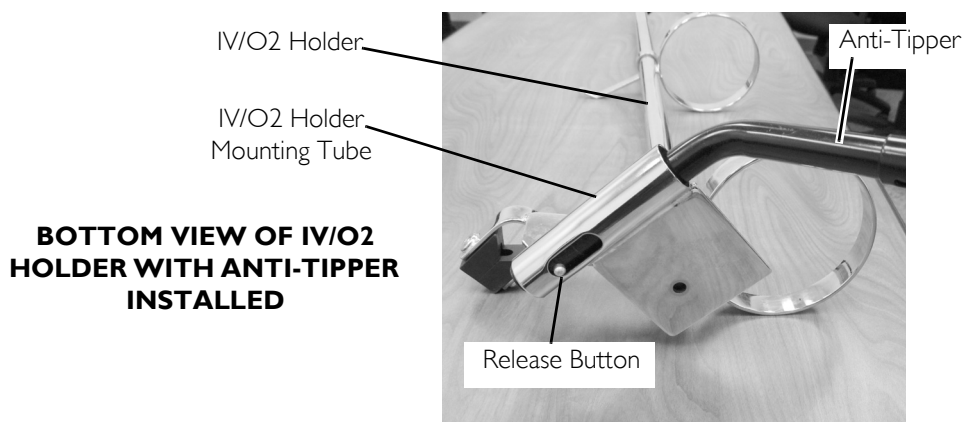
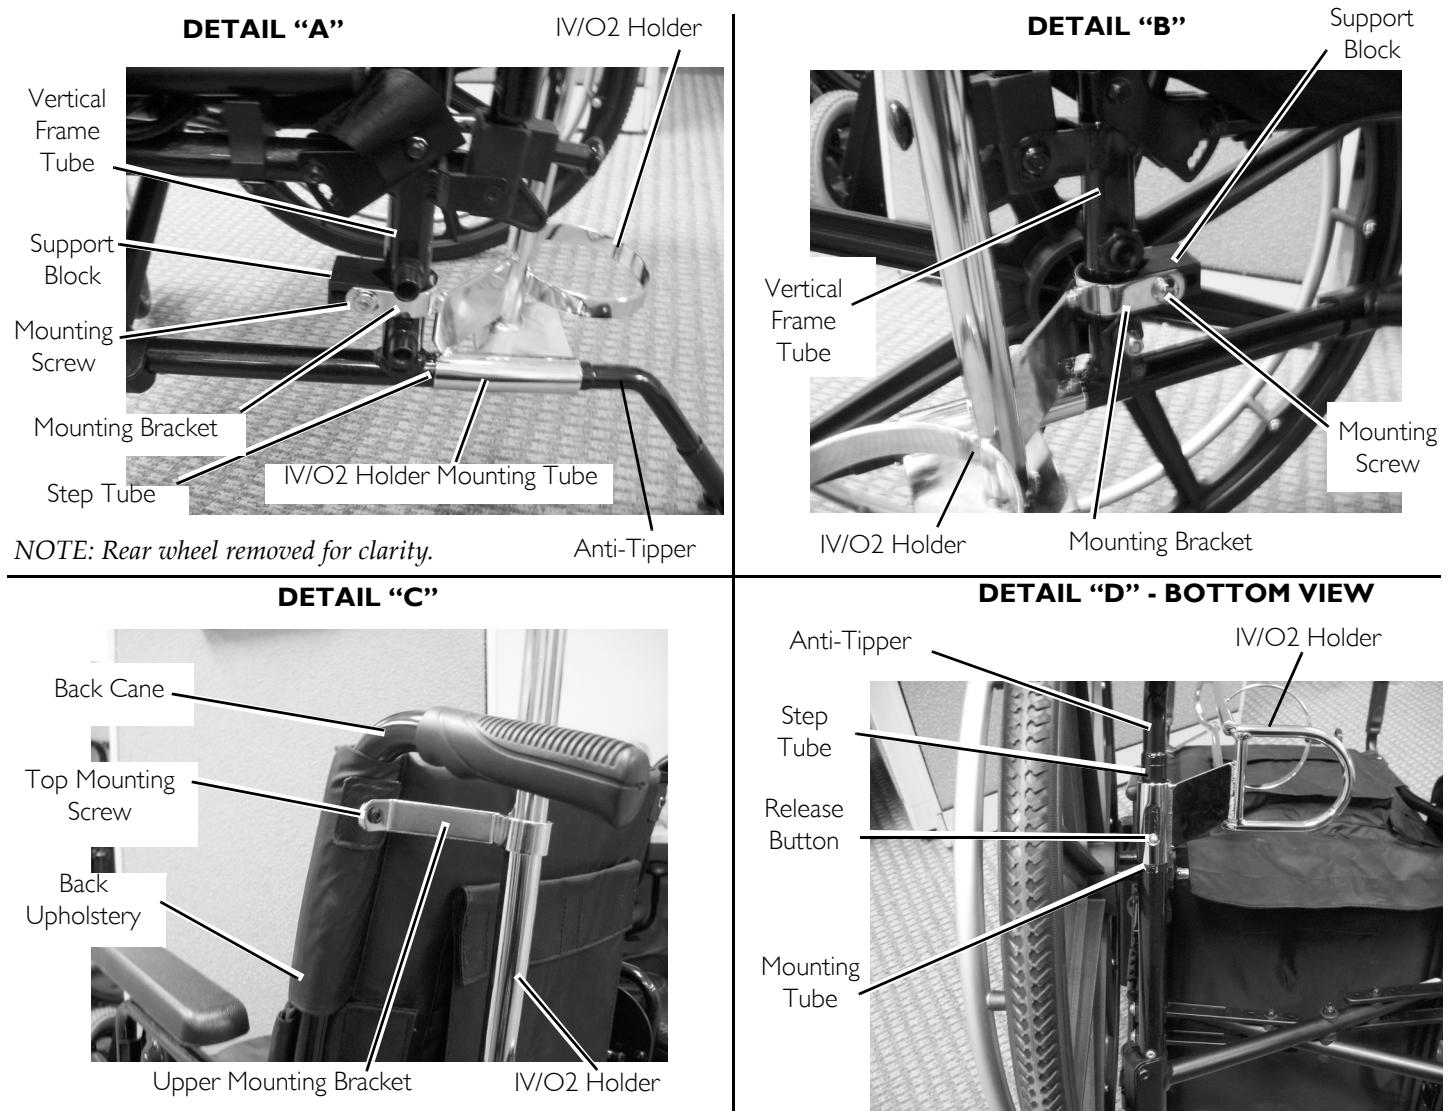

FIGURE 11.4 Installing Anti-Tipper into IV/O2 Holder Mounting Tube
FIGURE 11.5 Installing/Removing the IV/O2 Holder
NOTE: For this procedure, refer to FIGURE 11.4 and FIGURE 11.5 on page 46.
2. Insert the anti-tipper into the IV/O2 holder mounting tube until the release button is visible through the opening in the bottom of the IV/O2 holder mounting tube (FIGURE 11.4).
3. Slide the IV/O2 holder and anti-tipper assembly onto the step tube and, while pressing the release button, insert the anti-tipper into the step tube (Detail "A" and "D" in FIGURE 11.5).
4. Ensure the release button locks in the hole on the bottom of the step tube (Detail "A" and "D" in FIGURE 11.5).
5. Secure mounting bracket and support block against vertical frame tube with mounting screw (Detail "A" and "B" in FIGURE 11.5). Tighten securely.
6. Remove the top mounting screw that secures the back upholstery to the back cane (Detail "A" in FIGURE 11.5).
7. Secure the upper mounting bracket of the IV/O2 holder and back upholstery to the back cane with the mounting screw removed in STEP 6. Tighten securely (Detail "C" in FIGURE 11.5).
NOTE: For this procedure, refer to FIGURE 11.5.